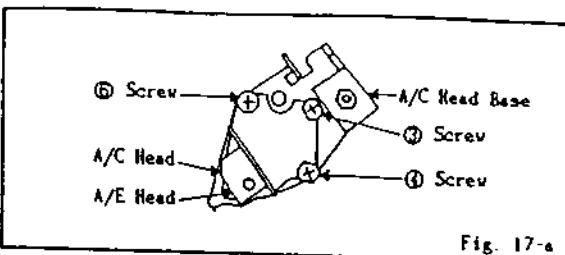

Fig. 17-a
2. Loosen SET SCREW ① using phillips screwdriver (Fig. 17-a)
3. Remove screw ④ using phillips screwdriver.
4. Remove A/C Head screw ⑤ using phillips screwdriver. Carefully do this, because there is a spring between the plate and A/C Head screw.
2. Turn SET SCREW ④ slowly until maximum level is achieved. If maximum level cannot be maintained set screws where level variation is the smallest. (Fig. 17-a)
7. Position the tracking control knob at preset and turn adjusting nut X a little as in Fig. 17-a so that envelope becomes maximum. Adjust position of A/C Head.
In case tape is running abnormally, make the following adjustments (Fig. 17-a and 18).